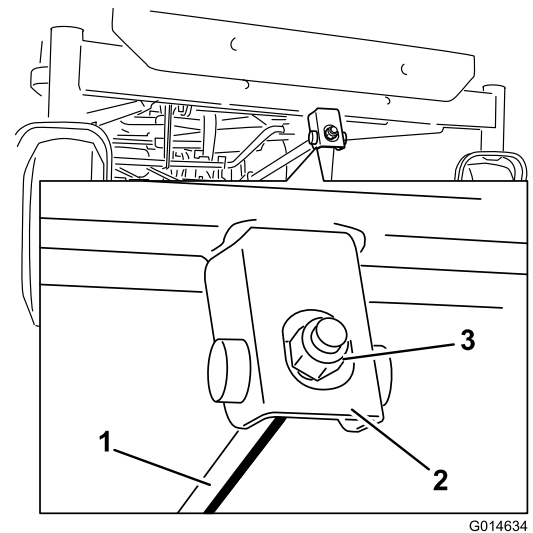

Figure 54
6. To adjust the front-to-rear blade slope, rotate the adjustment nut in the front of the mower (Figure 54).